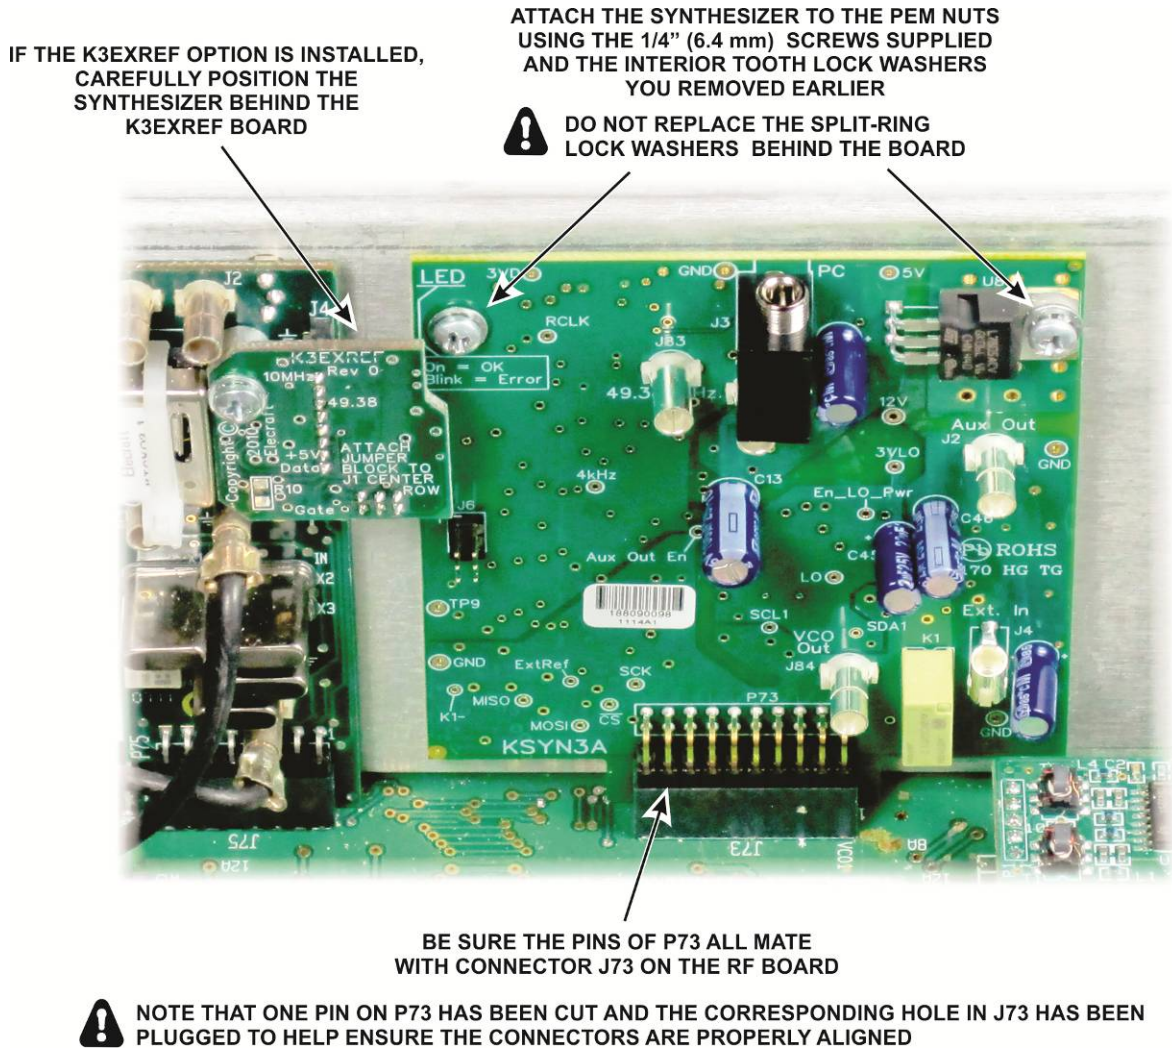

Figure 10. Mounting the Main Synthesizer Board.
□ Install the main KSYN3A board as shown in Figure 10. Use the new screws that came with the synthesizer and either the new lock washers or the lock washers you removed with the old synthesizer. Do not replace the lock washers behind the synthesizer board that you removed earlier. The KSYN3A board rests directly against the PEM nuts on the front panel shield.
2. With the two coaxial cables connected, install the synthesizer just as you did the main synthesizer, using the screws supplied with the KSYN3A board and the interior tooth lock washers you removed earlier (see Figure 10).